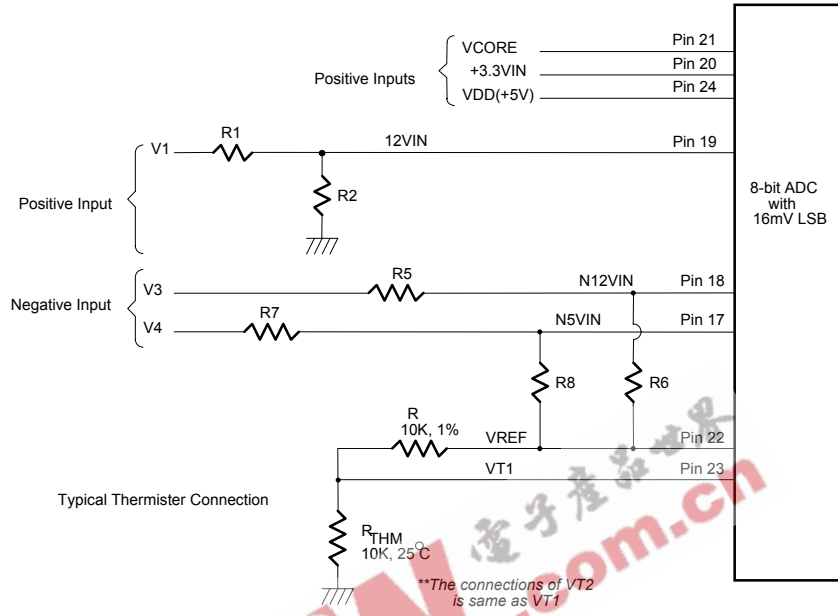

Figure 11.
The maximum input voltage of the analog pin is 4.096V because the 8-bit ADC has a 16mv LSB. Really, the application of the PC monitoring would most often be connected to power suppliers. The CPU V-core voltage, +3.3V and battery voltage can directly connected to these analog inputs. The 5VSB and +12V inputs should be reduced a factor with external resistors so as to obtain the input range. As Figure 11 shows.
The negative voltage should be connected two series resistors and a positive voltage VREF (is equal to 3.6V). In the Figure 11, the voltage V3 and V4 are two negative voltage which they are -12V and -5V respectively. The voltage V3 is connected to two serial resistors then is connected to another terminal VREF which is positive voltage. So as that the voltage node N12VIN can be obtain a posedge voltage if the scales of the two serial resirtors are carefully selected. It is recomanded from Winbond that the scale of two serial resistors are R5=232K ohms and R6=56K ohm. the The input voltage of node -12VIN can be calculated by following equation.
The W83783S can connect three thermistors to measure three different environment temperature. The specification of thermistor should be considered to (1)  $\beta$  value is 3435K, (2) resistor value is 10K ohms at 25°C. In the Figure 11, the thermistor is connected by a series resistor with 10K Ohms, then connect to VREF (Pin 37).